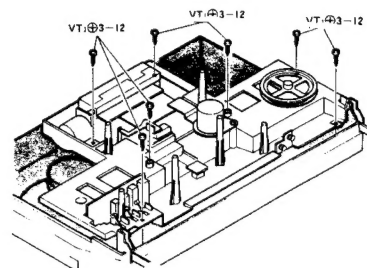

Fig. 6
- 4) Remove the 7 screws. (See figure 6)